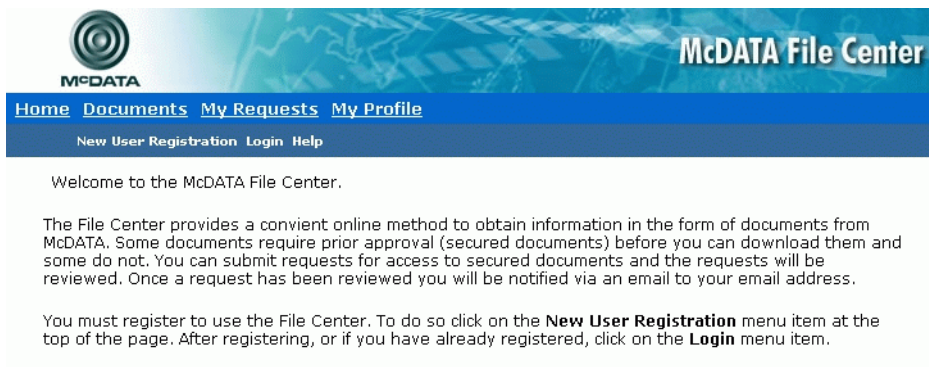

Figure 4-49 McDATA File Center Home Page
1. Obtain the new firmware version from the McDATA File Center. At a PC with Internet access, open the File Center home page (Figure 4-49). The uniform resource locator (URL) is <http://central.mcddata.com>.